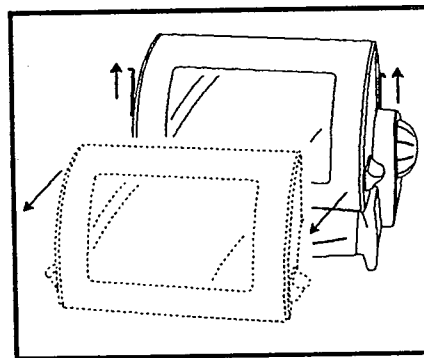

Figure 13
2. Firmly pull up on the Hooks while pulling Cover forward. See Figure 13. The Cover should release from the Rotisserie Oven Body.